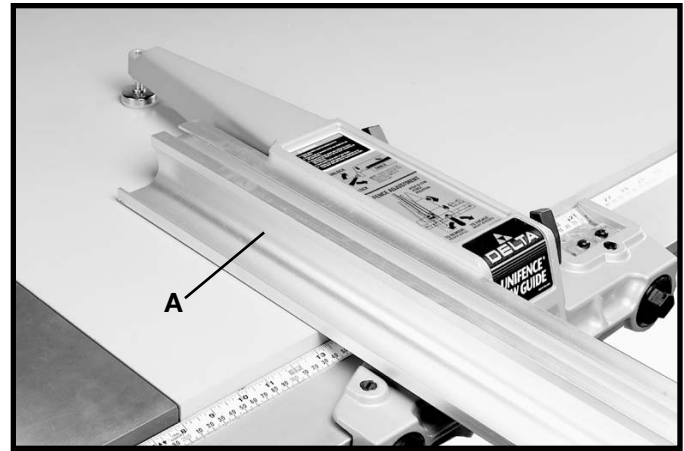
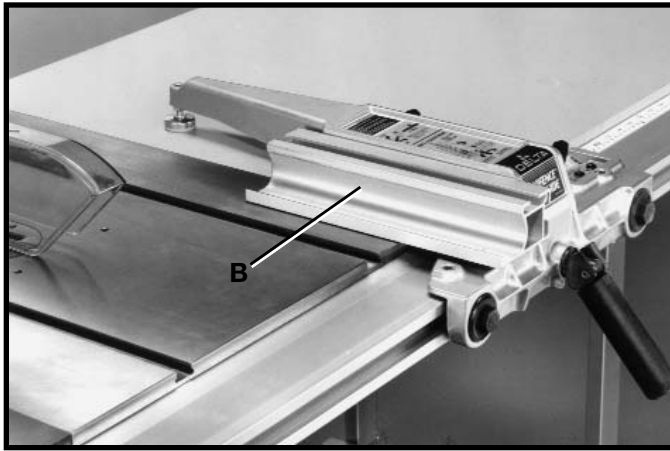
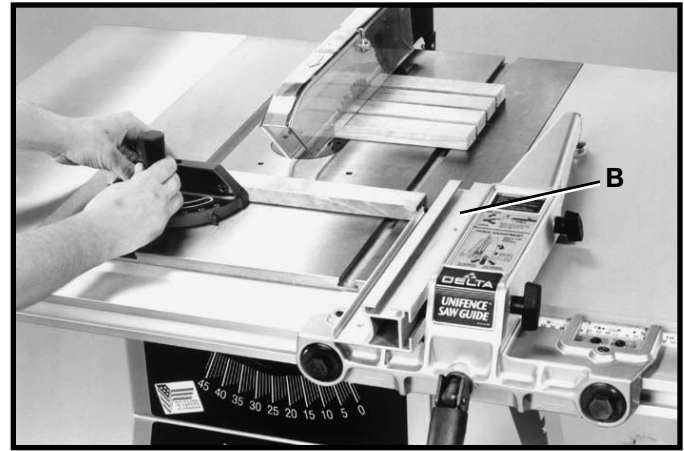

Fig. 122
Fig. 123
Fig. 124
When using the fence as a cut-off gage, simply position the fence (A) to the front as shown in Fig. 122, or purchase the accessory 34-878, 12' long fence (B), as shown in Fig. 123. Fig. 124, illustrates a typical operation using the accessory 34-878 12' long fence (B) as a cut-off gage.